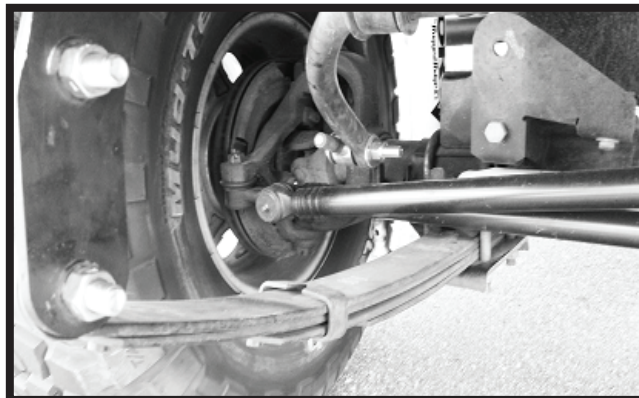

Figure 1
- Step 3. Insert the new H/D Cross-Over steering. Start at passenger side knuckle. Slide kit over leaf springs and into position. (Figure 1) It may be necessary to move one wheel outbound to fit tubes into place. The dual attachment point tie-rod end should be mounted to the passenger side knuckle. Using the knuckle to knuckle measurement taken in (step 1), return the wheel & knuckle back to the correct position. Attach castle nuts and torque to 60 ft-lbs for all locations.